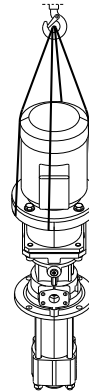
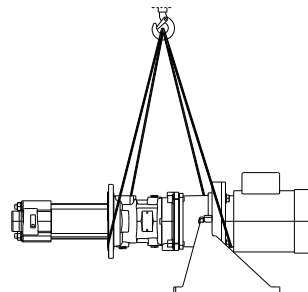

Fig. 1 Vertical lifting
Fig. 2 Horizontal lifting
- Fasten the lifting gear as shown in fig. 1 and fig. 2.